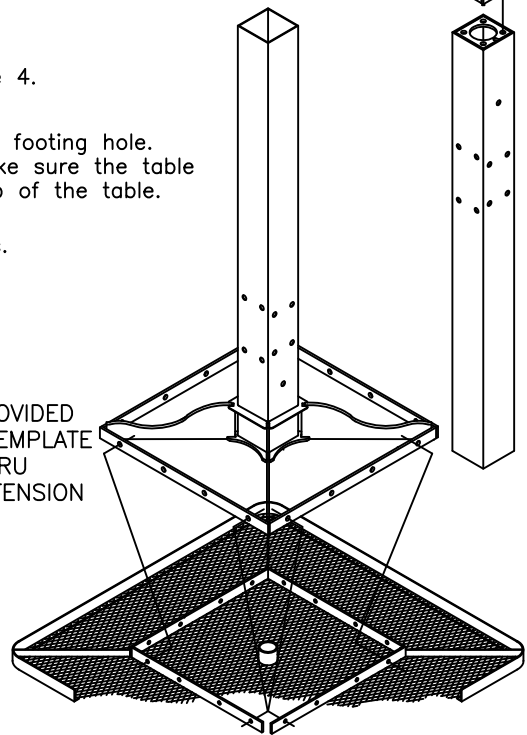

FIG. 2
Invert the top on a flat surface. Attach the (D/F) assembly to the inside of the top's center square mounting frame, see FIG. 2. Use eight (H) and (N) using two (M) and one (R) per (H). Draw the fasteners to a snug fit with wrenches.